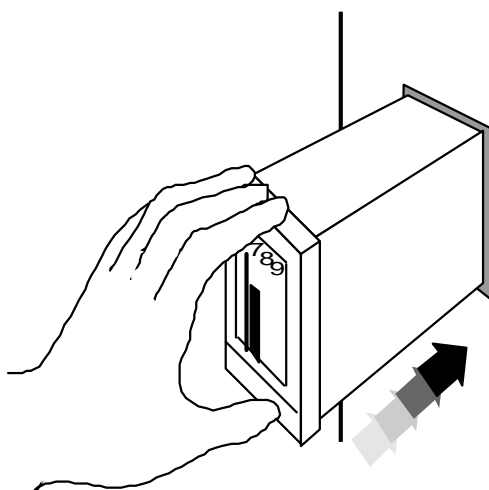

Figure 2.1 Insertion into the panel aperture
1. Insert the instrument in the aperture on the panel. (fig. 2.1)